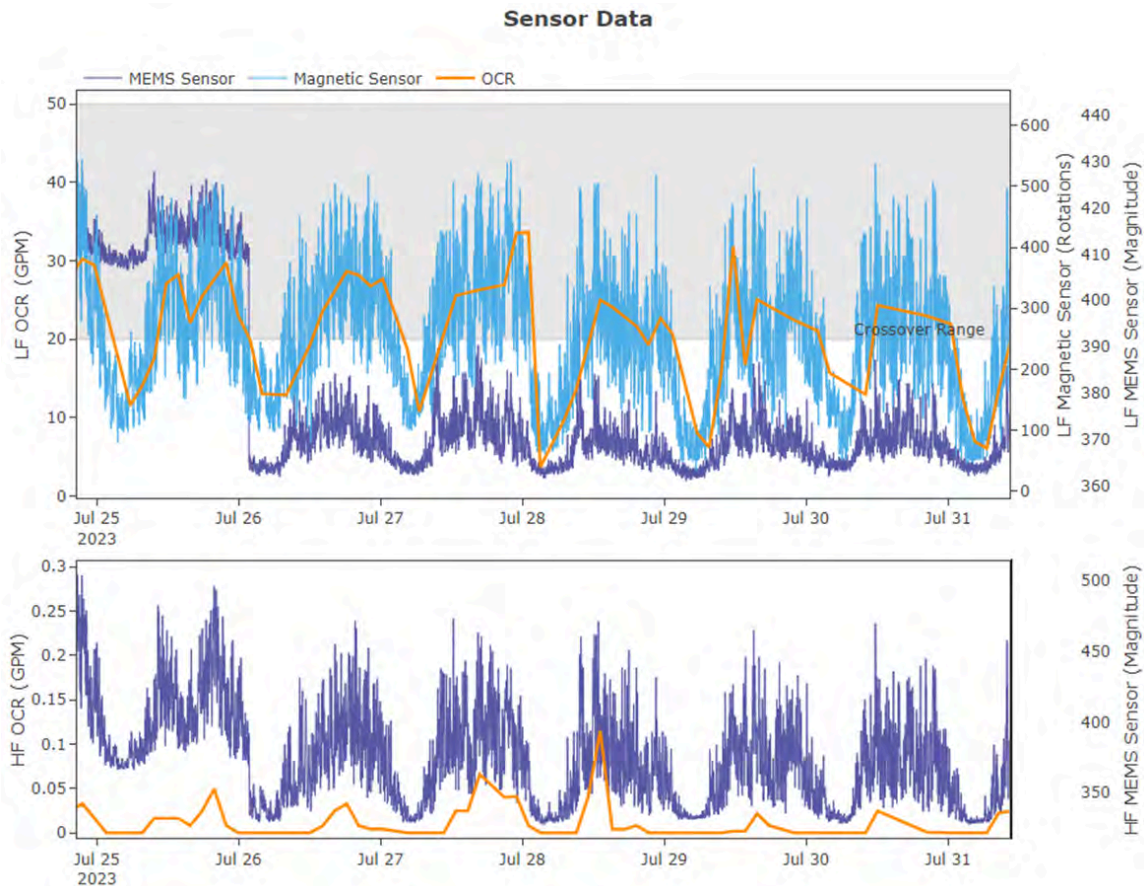

Figure 11 - Meter experiencing incorrect valve positions and a measuring element malfunction
- Observation (Figure 11): Flow is being recorded within the crossover range on the low flow side of the compound meter, but the high flow register data shows very low flows (<0.15 GPM), while Olea's acoustic sensor indicates that higher flows are present. This is indicative of a measuring element failure/malfunction on the high flow side of the compound meter.